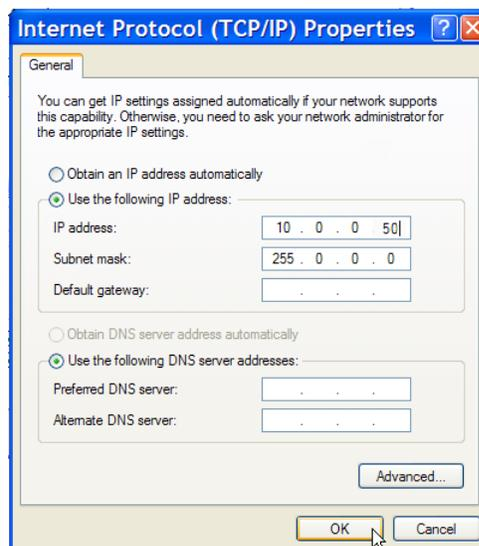

Figure 7. Setting The IP Address
- (6) From the Internet Protocol (TCP/IP) Properties window, select the **Use the following IP address:** radio button then enter the following settings (Figure 7):
- (7) In the **IP address:** window, enter **10.0.0.50**
- (8) In the **Subunit mask:** window, enter **255.0.0.0**.
- (9) Click the **OK** button.